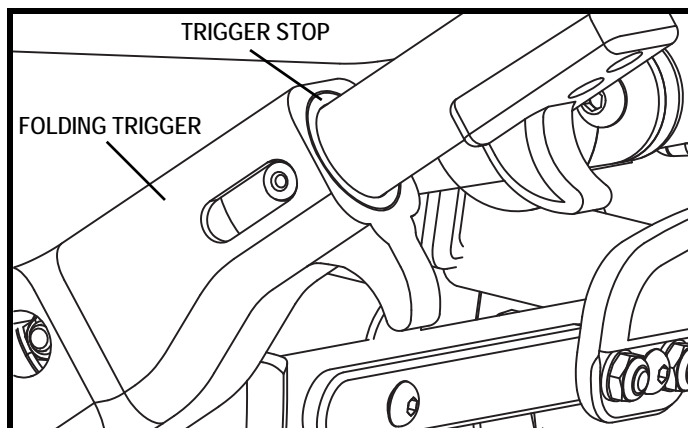

Figure 13. The Kids FAST Folding Trigger Stop
3. Ensure the folding triggers are engaged in the plate latches by confirming that the rear surface of the folding trigger is flush with the trigger stop. **See figure 13.**